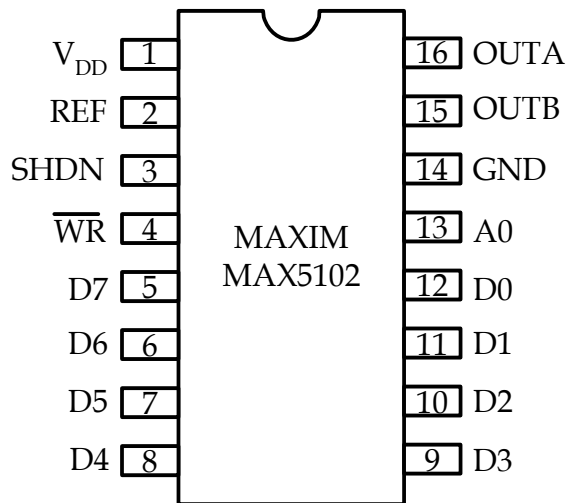

Figure 7.28 MAX5102 Pin configuration
- Block diagram and pin assignment are shown in Figure 7.28 and 7.29.